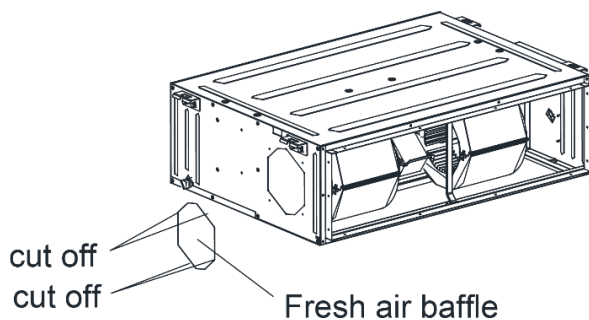

Fig 9.4.8
- (1) When the fresh air pipe is needed to be connected, cut the fresh air baffle as Fig 9.4.8. Plug up the gap of the fresh air baffle by sponge if the fresh air duct is not be used.